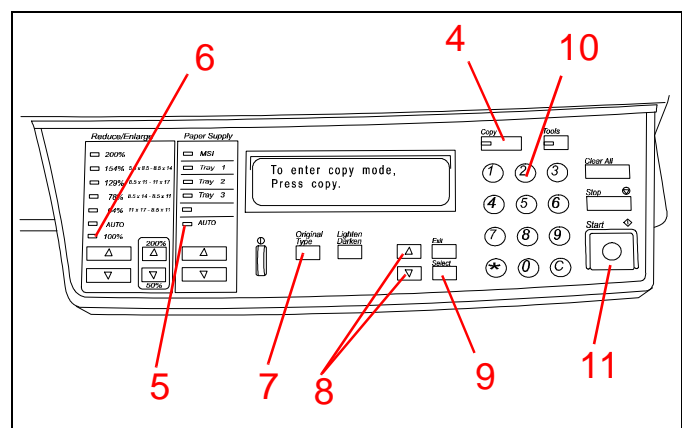

Figure 43
- See Figure 43. Press the **Copy** button.